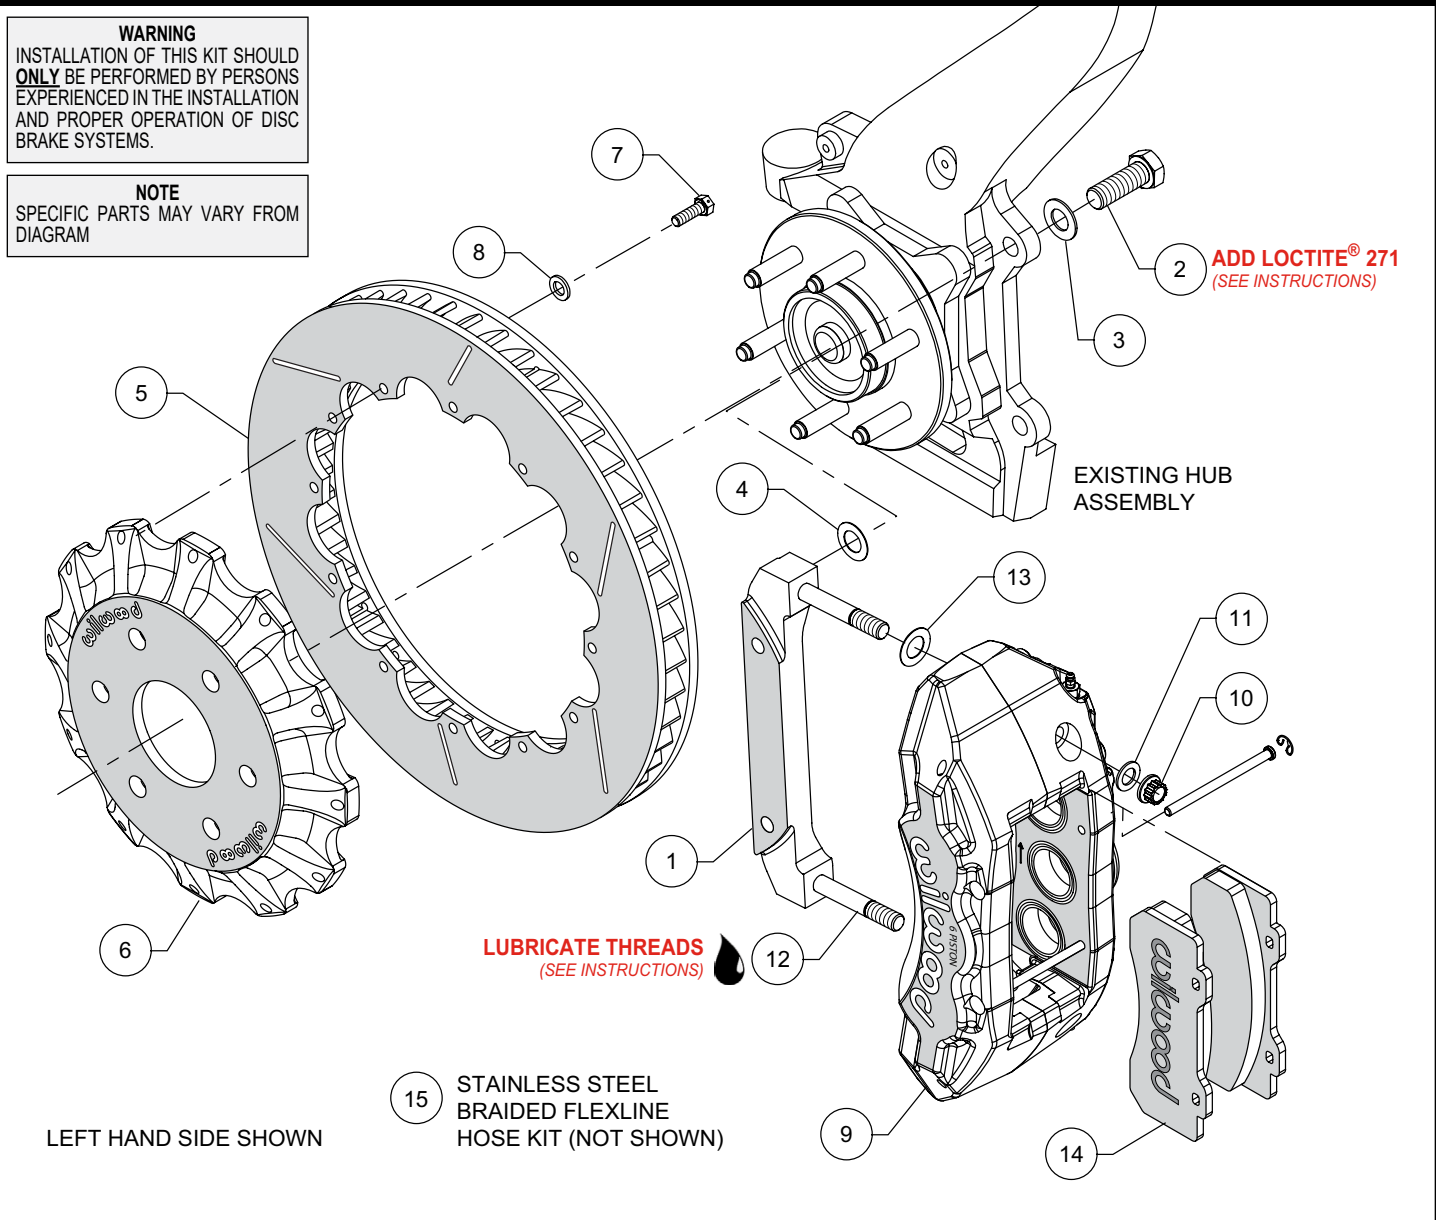
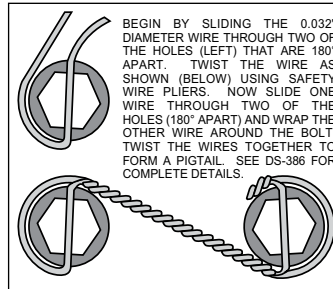

Figure 1. Typical Installation Configuration
Figure 3. Safety Wire Diagram
**NOTE:** Numbers in parenthesis refer to the parts list and Figure 1 on the preceding pages.
- The caliper mount bracket (1) should initially be installed with clean, dry threads on the mounting bolts. Orient the bracket as shown in Figure 1 and Photo 1, and install using bolts (2) and washers (3). Initially place one .029 thick shim (4) on each bolt between the bracket and upright, Figure 1. Temporarily tighten the mounting bolts. **NOTE:** *The bracket must fit squarely against the mount bosses on the upright.* Inspect for interference from casting irregularities, machining ridges, burrs, etc. Later, after the caliper alignment has been checked, the mount bolts will be secured using red *Loctite*® 271.
- Orient the rotor (5) and the hat (6) as shown in Figure 1 and Photo 2. Attach rotor to hat using bolts (7) and washers (8). Torque bolts to 25 ft-lb using a criss-cross pattern. For an added measure of security, the bolts may be safety wired using standard 0.032 inch diameter stainless steel safety wire as shown in Figure 3. Refer to Wilwood's data sheet DS-386 (available at [www.wilwood.com/Pdf/DataSheets/ds386.pdf](http://www.wilwood.com/Pdf/DataSheets/ds386.pdf)) for complete safety wire installation instructions.
- NOTE:** *This kit contains distinct right and left hand calipers that must be mounted in a specific direction, as described below.* Lubricate the caliper mounting studs (12) with lightweight oil. Mount the caliper (9) onto the bracket (1) using lock nuts (10) and washers (11), Figure 1. Ensure that the caliper is mounted so that the largest pistons are at the rotor exit end of the caliper, in relation to the direction of rotor rotation. Temporarily tighten the lock nuts and view the rotor through the top opening of the caliper. The rotor should be centered in the caliper, Photo 3. If not, adjust by adding or subtracting shims (4) between the bracket and the upright. Always use the same amount of shims on each of the two mounting bolts. Once the caliper alignment is correct, remove the bracket mounting bolts (2) one at a time, apply red *Loctite*® 271 to the threads, and torque to 77 ft-lb.